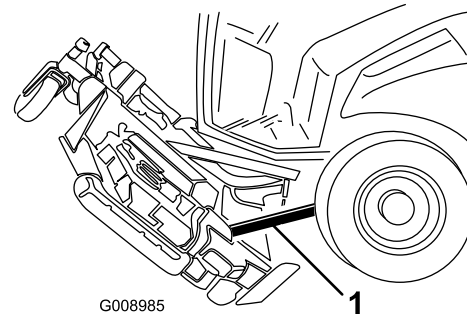

Figure 135
6. Wedge a block of wood between the rear of the deck and the machine (Figure 135).